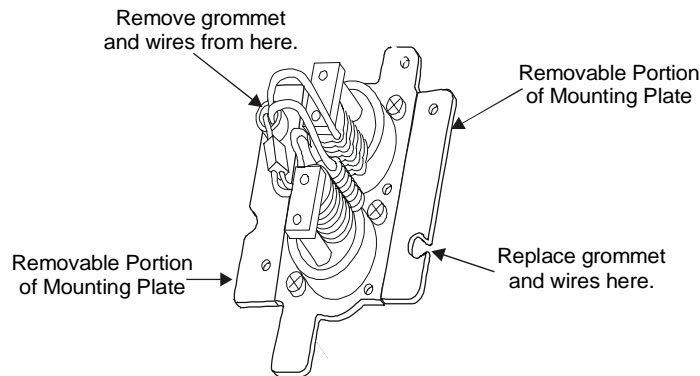

Figure 4: Grommet Locations
If they are not on the same side, remove the grommet of the new replacement valve and insert it into the other side of the mounting plate (see Figure 4). This allows the placement of the ignition control spark transformer over the outlet of the valve instead of the inlet.
14. Break off the portion of the plate that protrudes if it interferes with surrounding surfaces (see Figure 4).